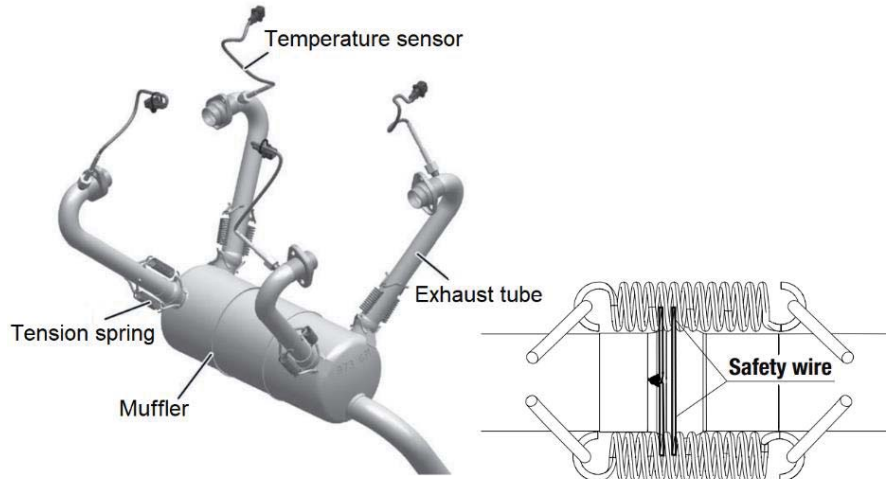

Fig. 3-4
Step 3. Cut the safety wires of the tension springs and remove the springs (see Fig. 3-4).